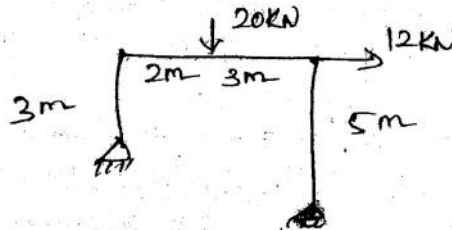

Figure-4.
4. Analyse the portal frame shown in figure-4 by strain energy method.